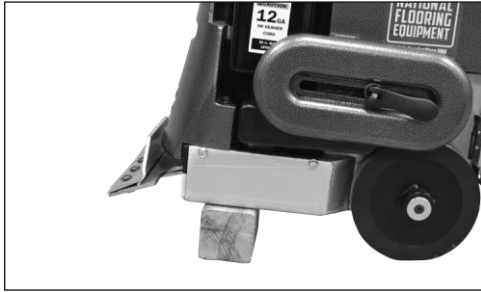

FIG. 7
1. Block up the front of the machine (Figure 7) using a flat piece of wood or something similar.